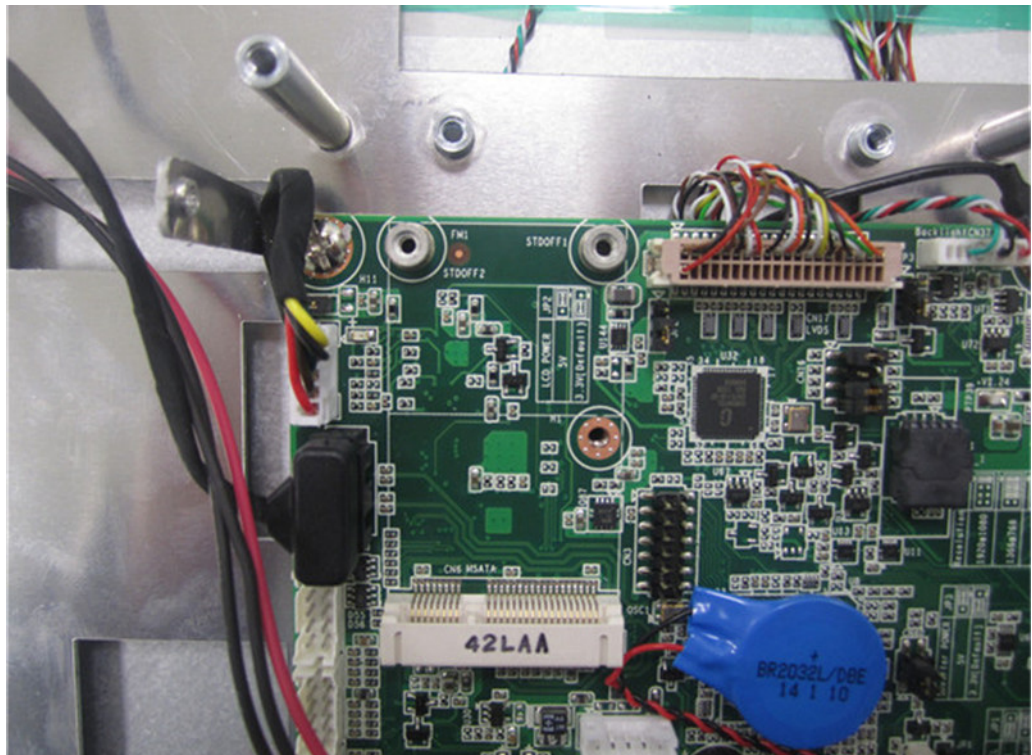

Figure 2.15
1. Follow Steps 1 and 2 of Section 2.4 to remove the rear cover and VESA mount plate. The disassembled machine should appear as shown in Fig. 2.15.